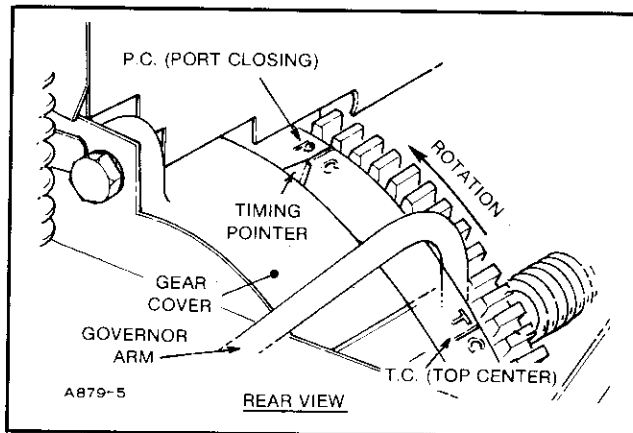

FIGURE 3-32. PORT CLOSING POSITION
3. See that PC mark on flywheel aligns with timing pointer on gear case cover, Figure 3-32.